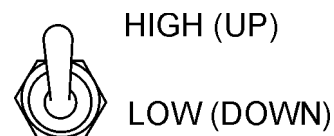

Figure 44. Engine Speed Switch
14. Set the engine speed switch (Figure 44) to low to idle engine, set to high before applying a load.